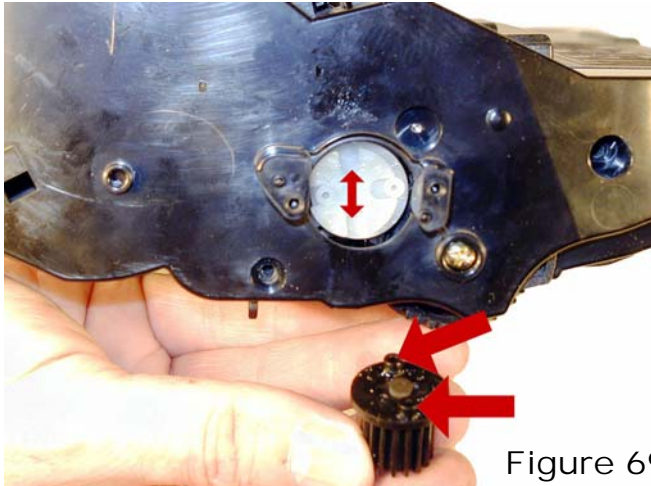

Figure 69
63) Install the drive gear, metal plate, and two screws. Make sure the tabs on the back of the black drive gear fit into the slots in the white drive gear. **Figures 69 & 70**